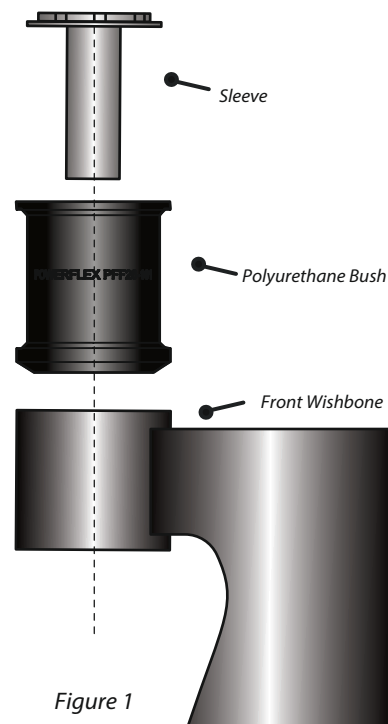

Figure 1
3. With the chamfered lip of the polyurethane bush facing the rear of the vehicle, press the bush into the arm as shown in Fig 1.
5. Fit the stainless-steel sleeve into the bush with the machined end facing Forward as shown in Fig 1.